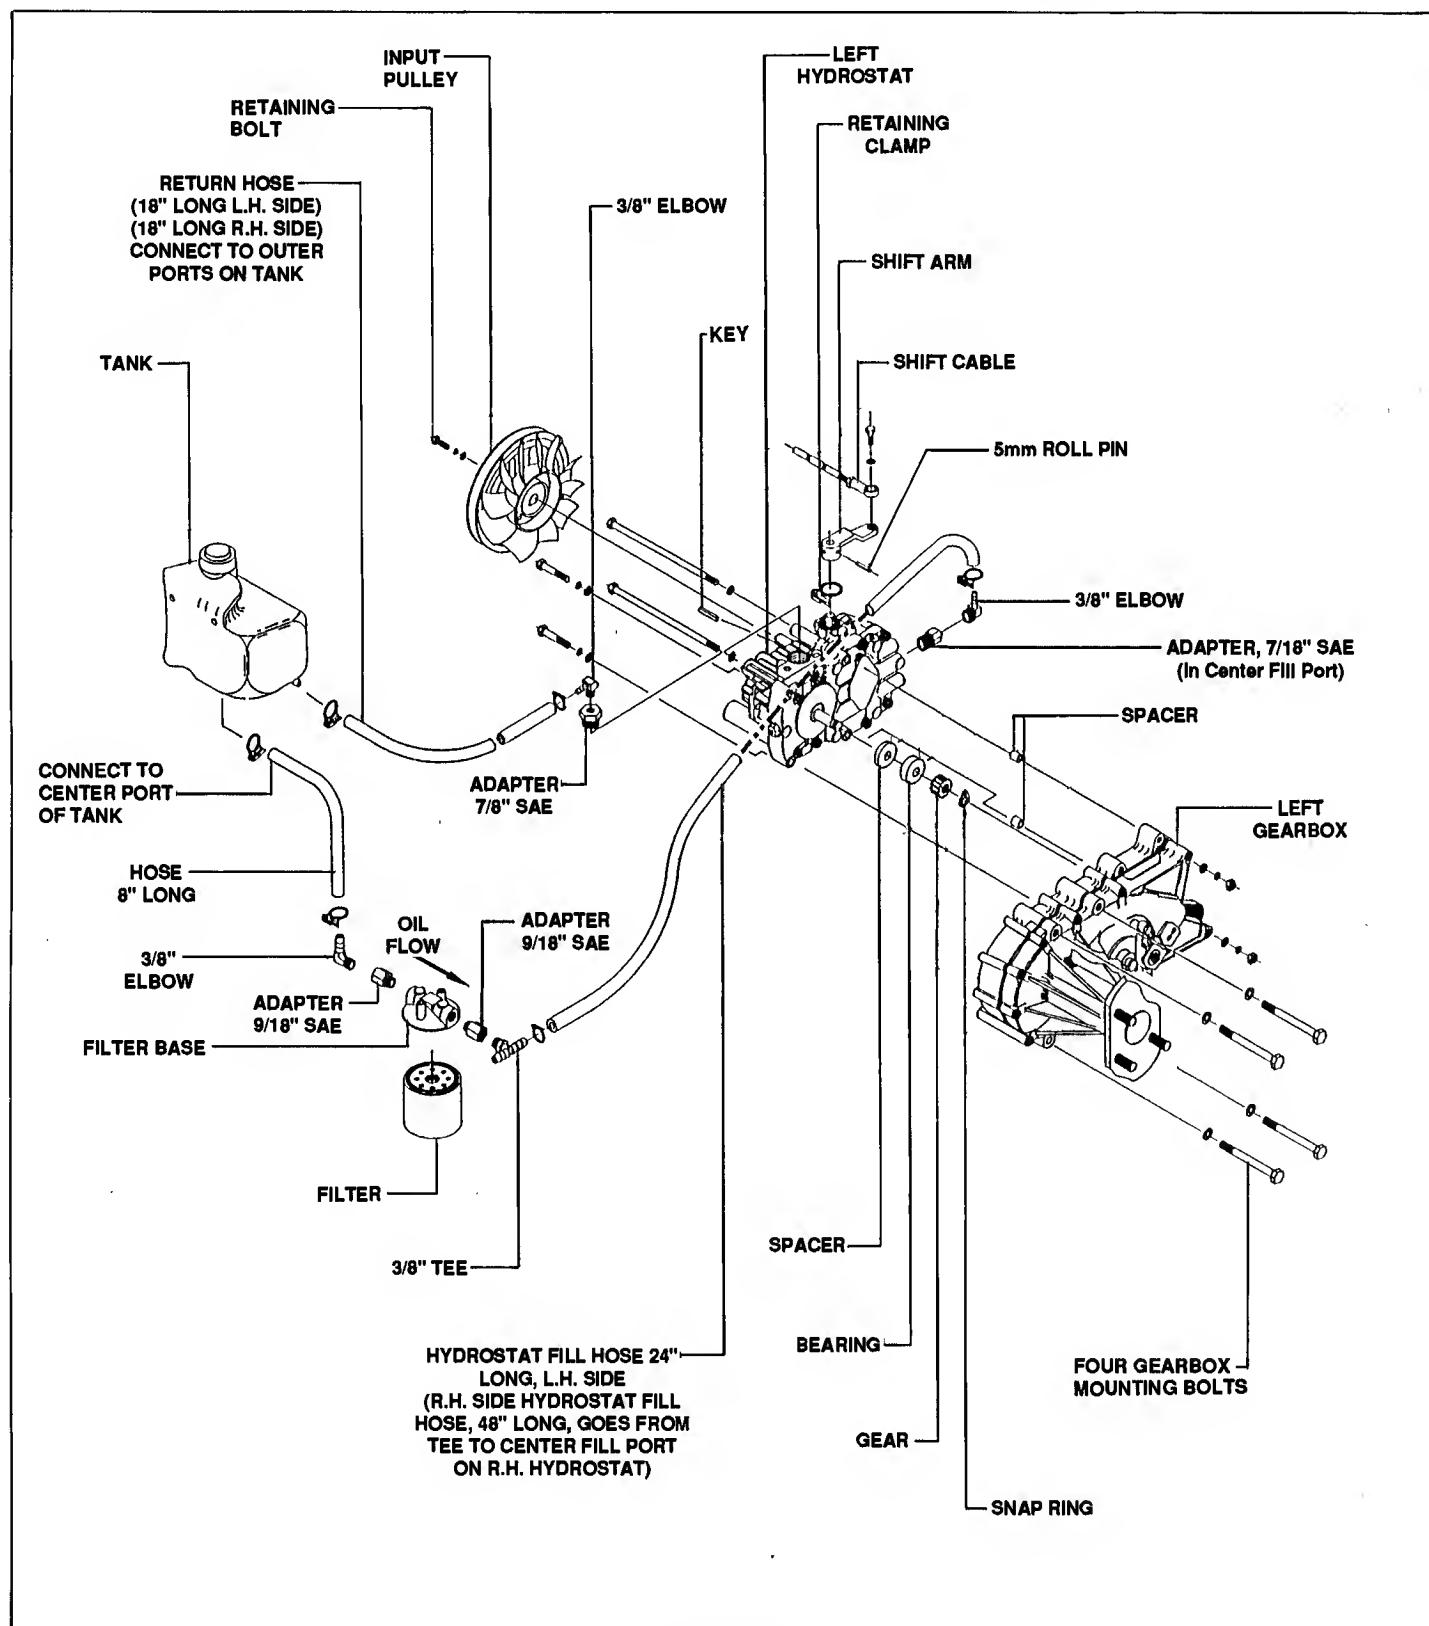

FIGURE 9.7
- (f) Remove the four gearbox mounting bolts. See Figure 9.7.
(e) Using clamps, connect the 6" long hose from the center port on the tank to the inlet port on the filter base (Refer to Figure 9.7).
- (d) Install new fittings for fill and return hoses as shown in Figure 9.7.
- (f) Install oil fill and return hoses and clamps as shown in Figure 9.7.
- (d) Connect the oil fill and return hoses as shown in Figure 9.7.